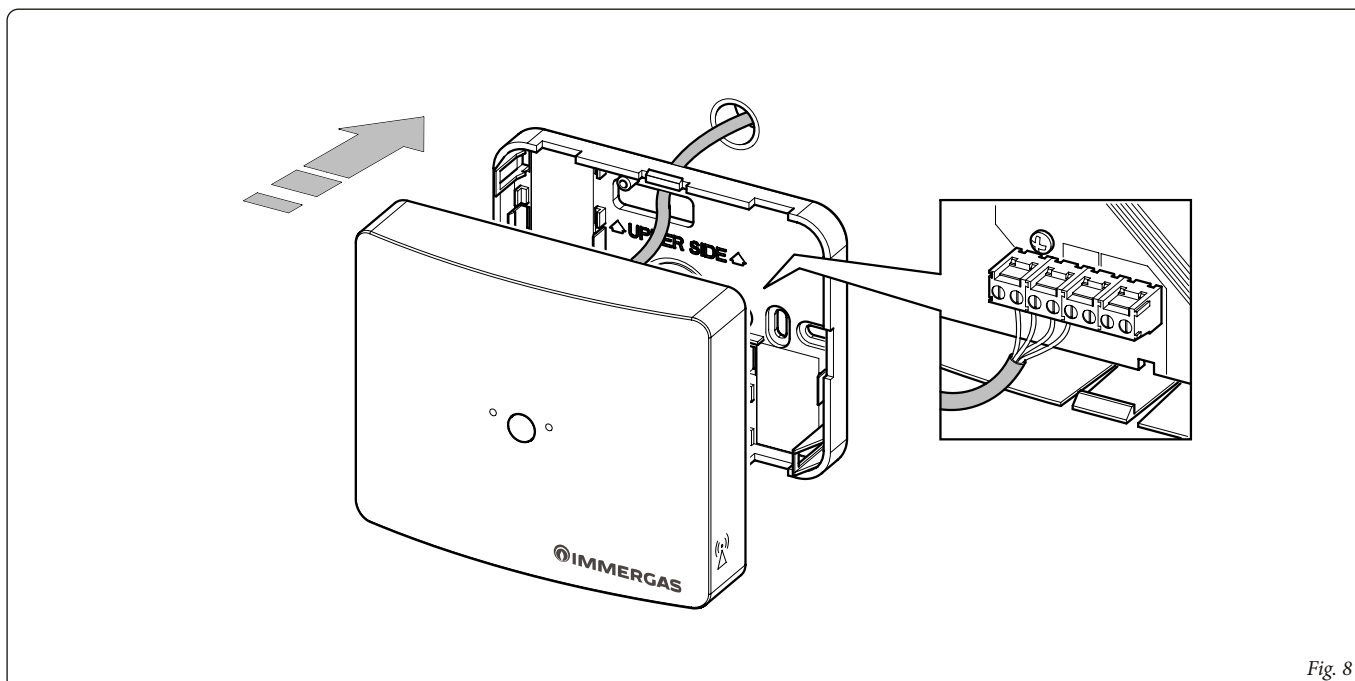

Fig. 8
4) Fissare il coperchio del concentratore al supporto innestandolo a pressione (fig. 8).
4) Fix the lid of the concentrator to the support by engaging it by pressure (fig. 8).